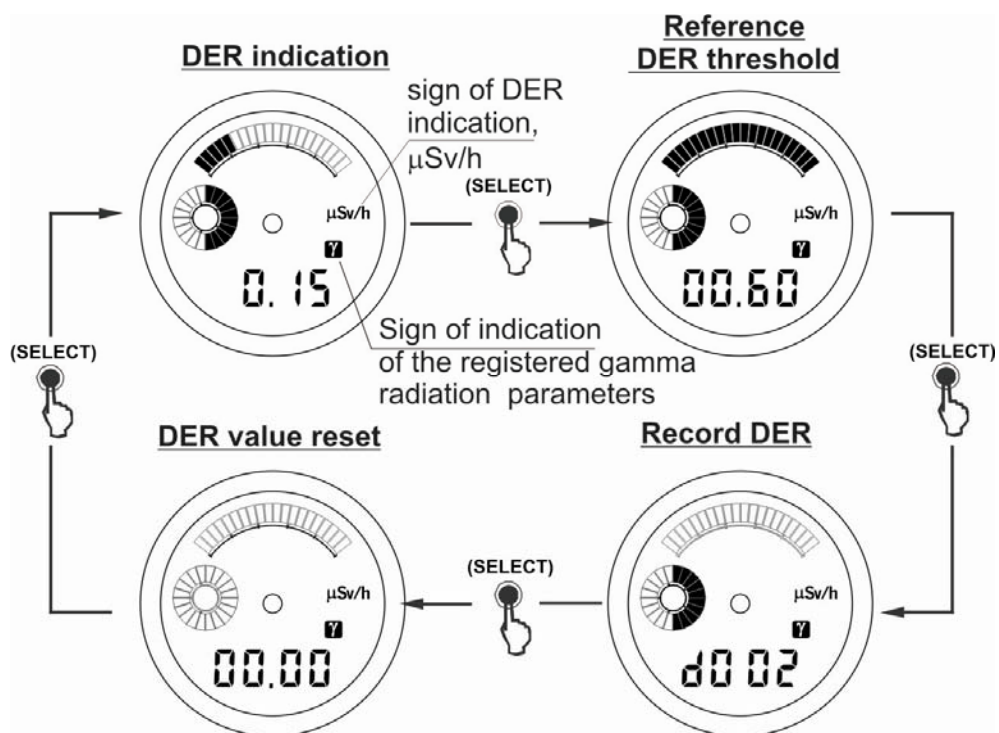

Fig. 3.3
3.2.4.1 Two short pressings of button 2 (SELECT) switch over from DER value indication to the mode of recording the DER registration history (Fig.3.3). The display will show the number of an expected reading (the cell number where the current DER value will be recorded). The recording of the current DER value is performed by short pressing of button 1 (MODE). The display will show the next number of the memory cell (increased by 1) where the next DER value will be stored. The indication “d ---“ means that the memory is full, i.e. 500 readings were stored. To store and to view the stored history it is necessary to use the PC communication mode (see clause 3.2.6). The counter of readings may be reset while in the set mode. After the counter is reset (if information in the memory was not transmitted to PC) then each new reading will be stored in the memory instead of the old one.
3.2.5.1 Three short pressings of button 2 (SELECT) switch over from the DER indication to the DER registration start mode (Fig.3.3). The LCD will show non- flashing digits 00.00  $\mu$ Sv/h.